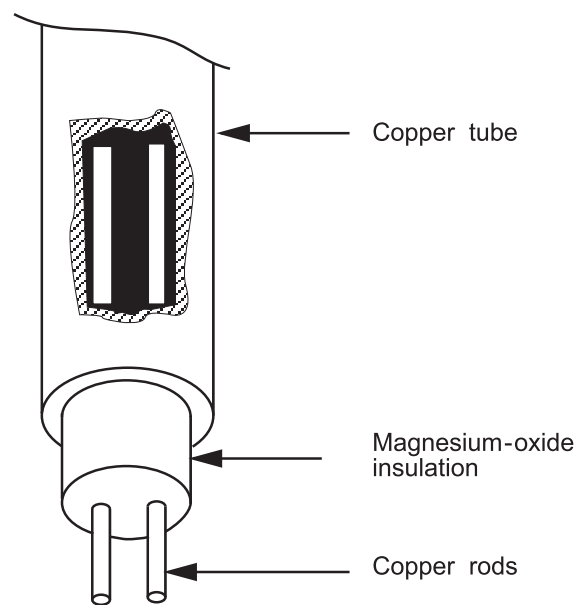

Figure 6—Mineral-insulated cable
Mineral-insulated (MI) cable has a magnesium oxide filler between the internal uninsulated conductors and the outer metallic (commonly copper) sheath, which makes it fire-resistant. See Figure 6. Because of this unique construction, a crushing blow to the cable changes the shape of not only the outer sheath but also the inner insulation and conductors. This allows the cable to withstand severe physical abuse without failing.